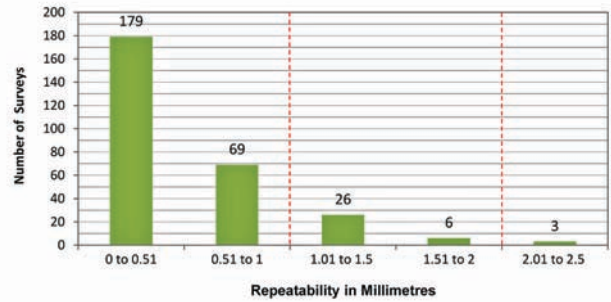

Figure 2. Survey repeatabilities with multiple probes for attached installations.
- Attached installations. Figure 2 shows 283 surveys. As can be seen, 248 were repeatable within our criterion and 280 met the manufacturer's specifications, representing 88% and 99% respectively.
Figure 2. Total stations in Amsterdam sighting prisms and RSP. In this case two total stations are installed to allow a larger number of points to be measured more often. Both total stations can measure both RSPs and prisms.